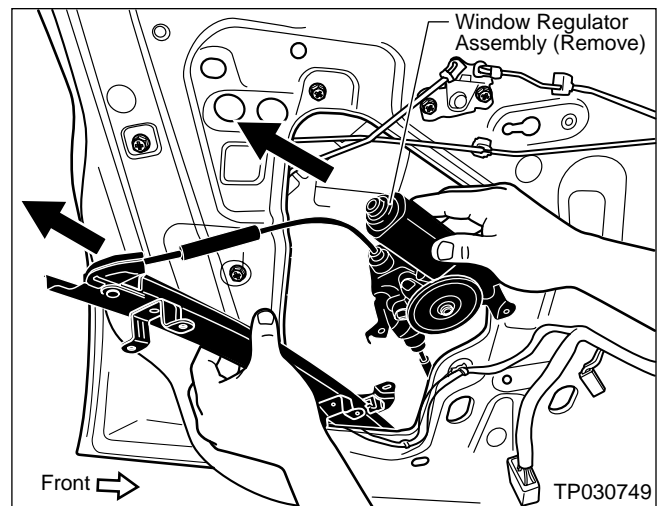

Figure 11
14. Remove the Window Regulator Assembly from the door (see Figure 11).